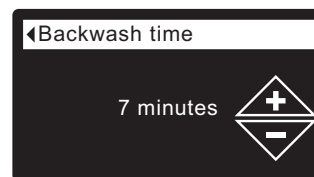

FIG. 82
- 8a. **Backwash time:** Press the UP (▲) or DOWN (▼) buttons to change the backwash time. Hold the button down to rapidly advance. The backwash time can be set from 1 to 30 minutes* (See Figure 82).